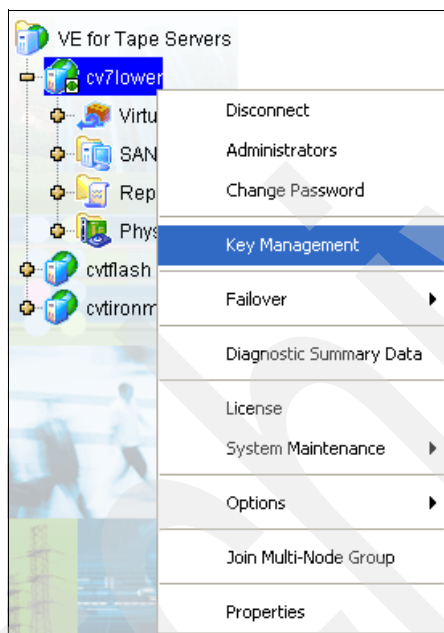

Figure 12-78 Starting the key management process
1. Right-click the TS7530 Server name and select **Key Management** in the navigation tree, as shown in Figure 12-78.